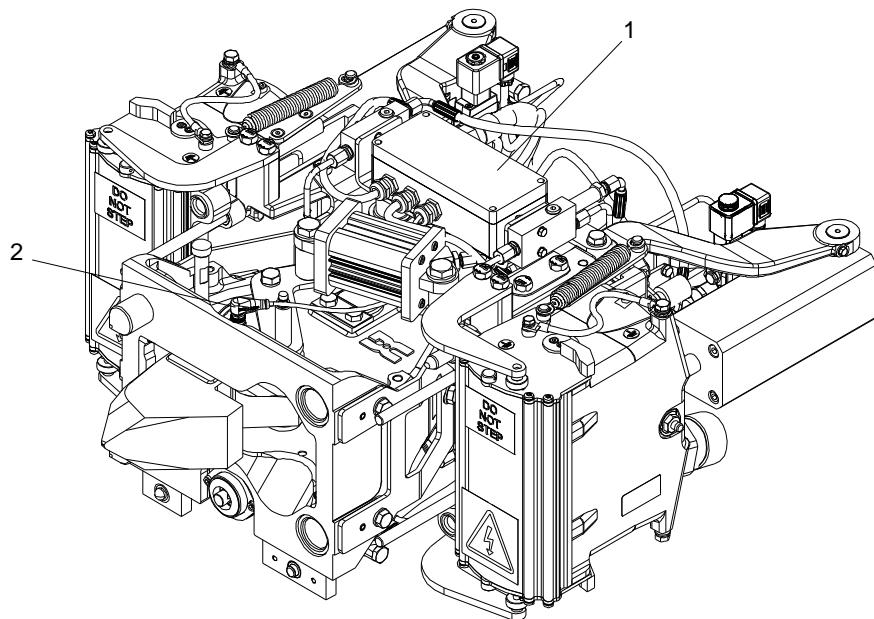

Figure 7-36: Replacement of Inductive Sensor (S8)
2. Open the cover of the terminal box (1). See Figure 7-36.
3. Take notes how the inductive sensor wiring is connected to the terminal block inside the terminal box (1).
5. Remove the inductive sensor (2) from the mechanical coupler.
2. Fit the inductive sensor (2) to the mechanical coupler. See Figure 7-36.
3. Connect the inductive sensor wiring to the terminal block inside the terminal box (1) according to previous notes and circuit diagram in Section 7.49.
4. Close the cover of the terminal box (1).